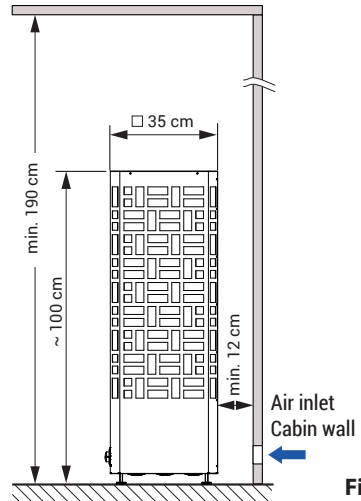

Fig. 1
- When installing the sauna heater, make sure that the horizontal (side) distance between the heater and the cabin wall is at least 12 cm (Fig. 1).